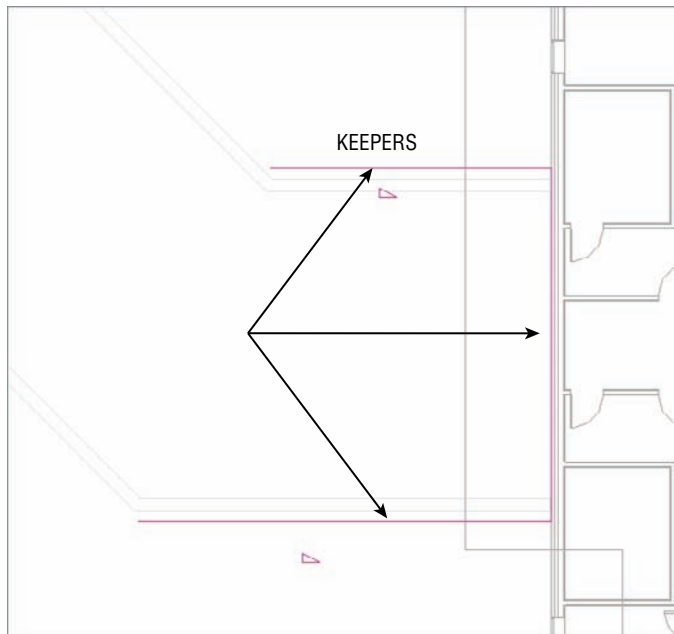

FIGURE 7.27 Keep these three lines.
3. Delete every line, other than the three shown in Figure 7.27.